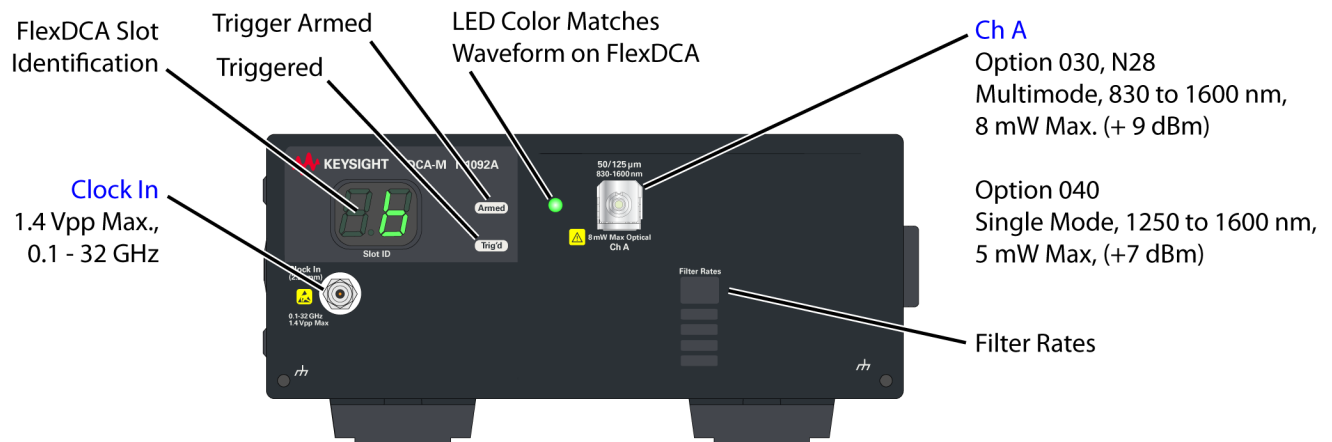

Figure 7. N1092A Front Panel
- *Figure 7, N1092A Front Panel*, on page 32